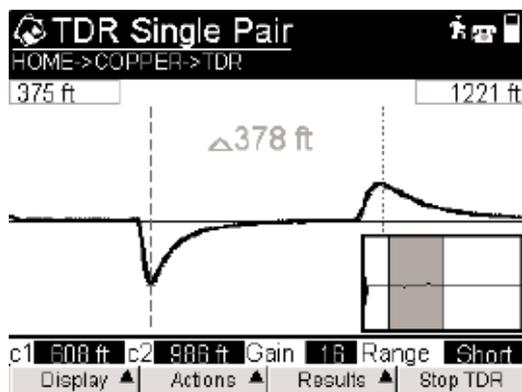

Figure 7 Bridged tap trace
- Move the second cursor to the highest point of the peak. The display shows the positions of cursor one (c1) and cursor two (C2) at the bottom of the screen and the distance between the two on top of the trace. This distance measurement is the length of the tap. Figure 7 shows a bridged tap at 608 feet with a length of 378 feet.